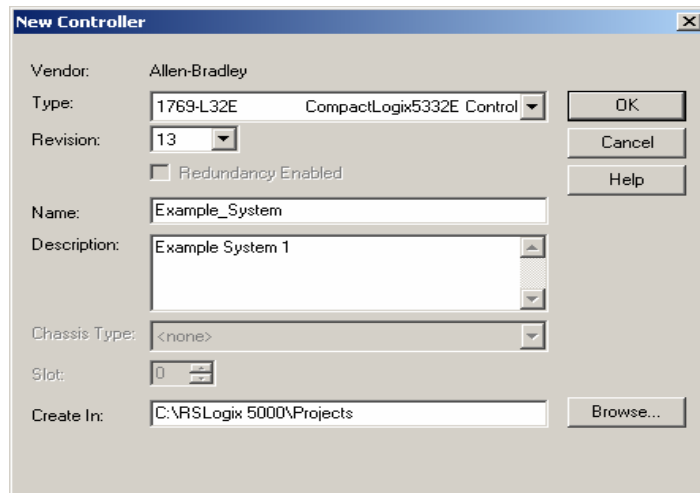

Figure 3. Example system “New Project”
- Select the correct PLC/Controller and system descriptions for the example system being created. See Figure 3.